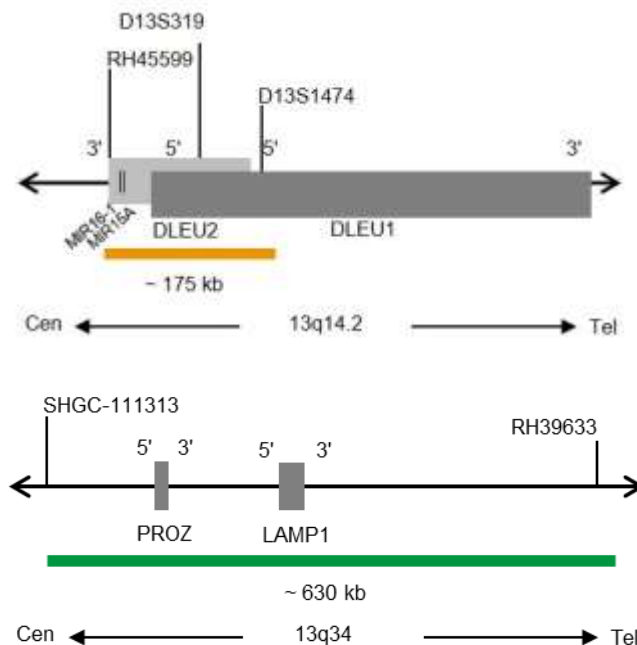

Fig. 1: SPEC D13S319 Probe map; Bottom: SPEC 13q34 Probe map (not to scale)
- ZyOrange (excitation 547 nm/emission 572 nm) labeled polynucleotides (~4.5 ng/μl), which target sequences mapping in 13q14.2* (chr13:50,607,438-50,781,256) harboring the D13S319 locus (see Fig. 1).
- ZyGreen (excitation 503 nm/emission 528 nm) labeled polynucleotides (~10.0 ng/μl), which target sequences mapping in 13q34* (chr13:113,691,216-114,323,467) (see Fig. 1).